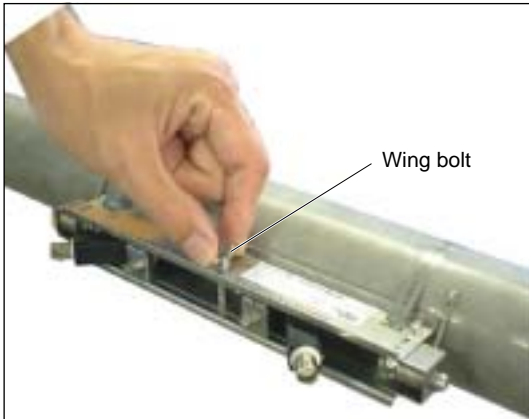

Fig. 3-39
- (1) Loosen the wing bolt located at the middle of frame by 3 to 4 turns (Fig. 3-39).